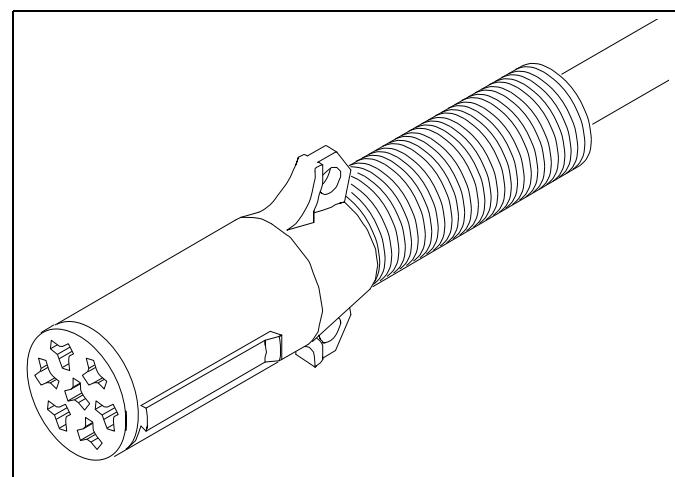

Figure 8
**Electrical Connections****Refer to Figure 8**